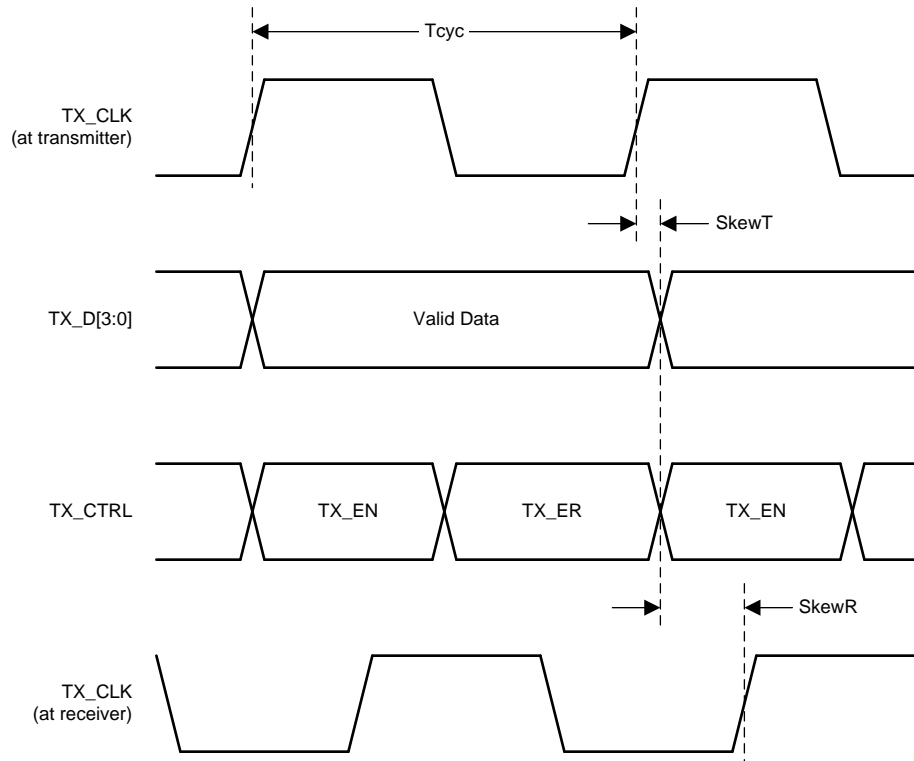
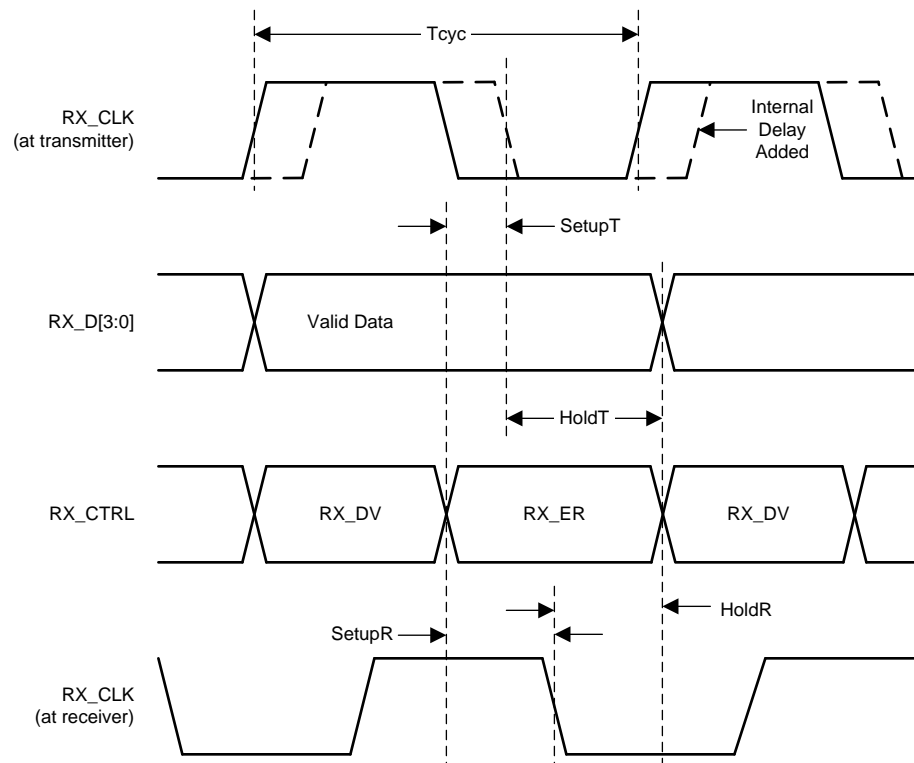

Figure 10. RGMII Transmit Timing
Figure 11. RGMII Receive Timing
(1) Ensured by production test, characterization or design.
(2) See Figure 10 and Figure 11.
(3) When operating without RGMII internal delay, the PCB design requires clocks to be routed such that an additional trace delay of greater than 1.5 ns is added to the associated clock signal.
(4) Device may operate with or without internal delay.
(5) The duty cycle may be stretched or shrunk during speed changes or while transitioning to a received packet's clock domain as long as minimum duty cycle is not violated and stretching occurs for no more than three Tcyc of the lowest speed transitioned between.